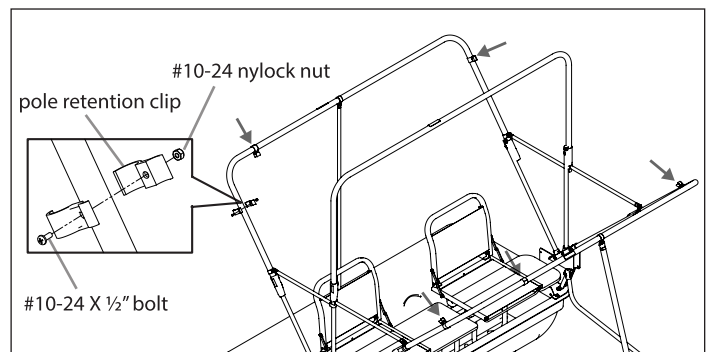

FIGURE 15
21. In the parts box there is a bag of pole retention clips. These clips will be used in the "stow and go" position of the spreader poles. The installation of the pole retention clips involves (2) clip retainers (15708), (1) #10-24 nylock nut, (1) #10-24 x 1/2" bolt. Tighten hardware and repeat installation until all pole retention clips are properly attached. **SEE FIGURE 15 & 16**